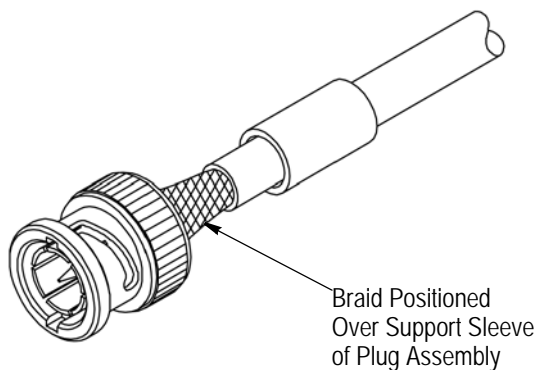

Figure 4
5. Insert contact assembly into plug assembly until it snaps into place. Make sure cable braid is positioned over the support sleeve of the plug assembly. Gently pull back on the cable to ensure that the contact is held in place by the internal locking feature. See Figure 4.